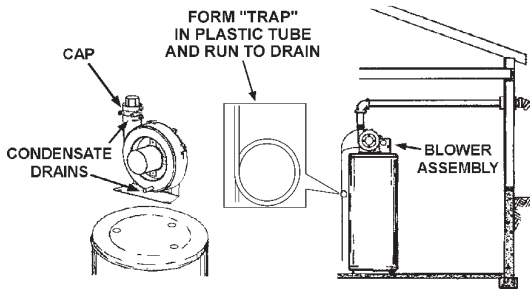

FIGURE 17.
3. The blower discharge adapter is made to accept only straight sections of 2" pipe. To start, a minimum of 2 inches of 2" pipe must be attached to the blower discharge (See figure 17).
4. There will be some installations where condensate will be formed in the horizontal runs of the vent system. This condensate will run into the condensate boot attached to the blower and out the fitting. The water heater is shipped with condensate hose that attaches to the fitting on the condensate boot. No other Tee or fitting is required. See Figures 17, 20 and 21.
This water heater is a condensing unit and requires a drain to be located in close proximity to allow the condensate to drain safely. The condensate drains from the unit at the exhaust tee located at the bottom of the unit (see figure 16) and from two places on the blower assembly (see figure 17). Condensate from this water heater is mildly acidic. Please note that some local codes require that condensate is treated by using a pH neutralizing filter prior to disposal.
Condensate is likely to form in the venting system attached to this water heater. The vent pipe should be sloped downward away from the blower assembly (not less than 1/8" (3.2 mm) nor greater than 1/2" (12.7 mm) per foot maximum). If the vent piping is vented level or sloped upwards away from the blower assembly, then adequate means for draining and disposing of the condensate needs to be made by the installer. In either case, a 3/8" drain hose should be connected to the built-in drain port. Prior to operating the water heater, make sure the removable cap is installed on the second drain port (See Figure 17).
3. Condensate drains from two locations on the blower assembly as shown in figure 17. A condensate hose must be secured to form a "trap" as shown in figure 17 for these condensate drain connections. These two hoses may be connected together. The hose(s) should be routed to a suitable drain. A fitting that may be used to join the two hoses from the blower assembly is included in a supplied kit.